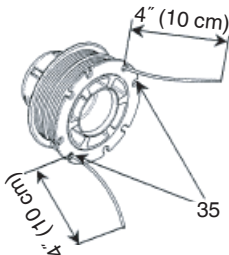

Fig. 31
(4) Push each line into the stopper holes (35), leaving the loose ends approx. 4" (10 cm) in length. (Fig. 31)